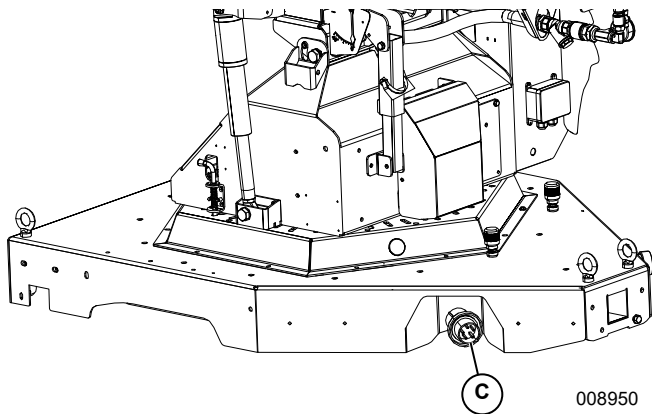

Figure 3-3. Electrical Connection
- See Figure 3-3. Verify power source is properly connected to socket (C). For power requirements and setup, see Connecting Power Supply.